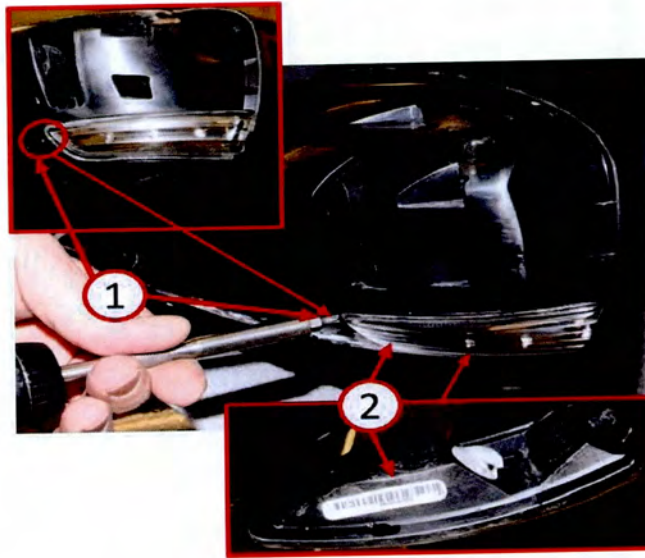

Fig. 4 Mirror Signal Lamp Removal
12. Remove the fastener (1) securing the turn signal lamp (2) (Fig. 4).